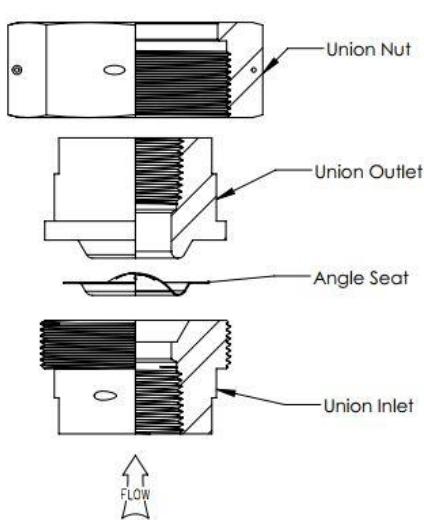

Figure 1 – Angle Seated Disk Union Type Holder
- f) Place the new unused rupture disk into the holder as per figure 1, 2, 3 or 4. with proper side of the disk facing the system pressure. **DO NOT USE A GASKET.**